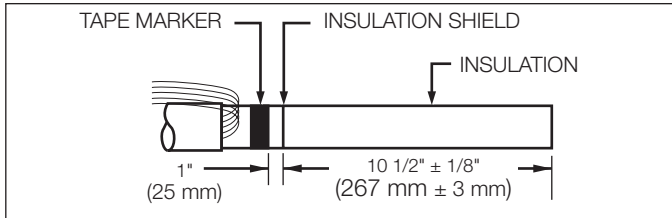

Figure 4.
- Remove insulation shield 10 1/2" (267 mm) from end of cable. (Refer to Figure 4.)
- Measure 1" (25 mm) from end of insulation shield. (Refer to Figure 4.)